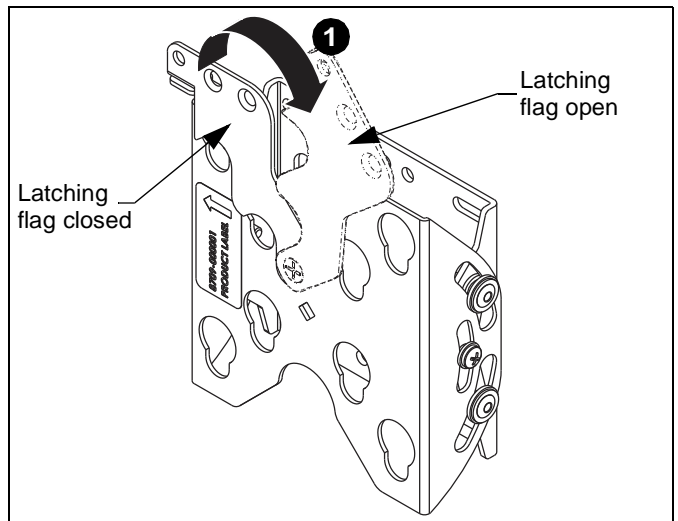

Figure 6
- Open latching flag by rotating flag clockwise on FTR1U/FTR100 assembly (A). (See Figure 6)